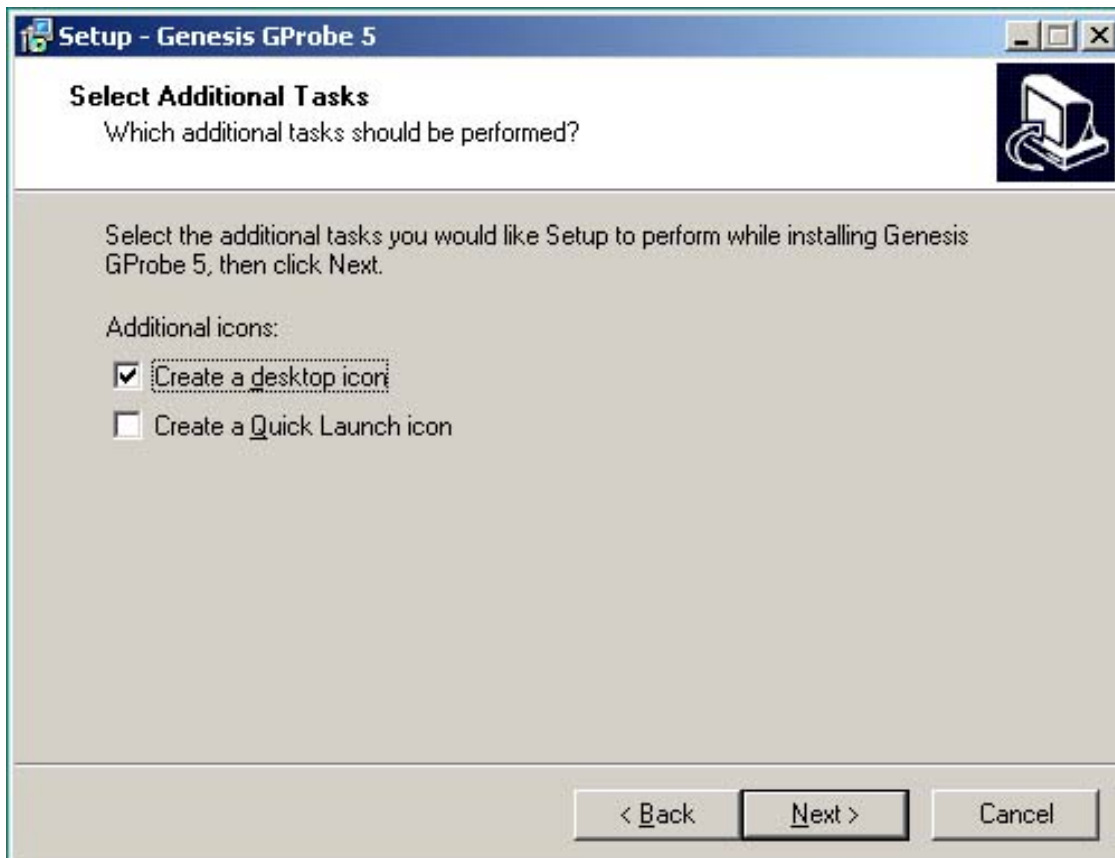

Fig. 0.5
0.5 Keep on press “ Next “ , see Fig. 0.5